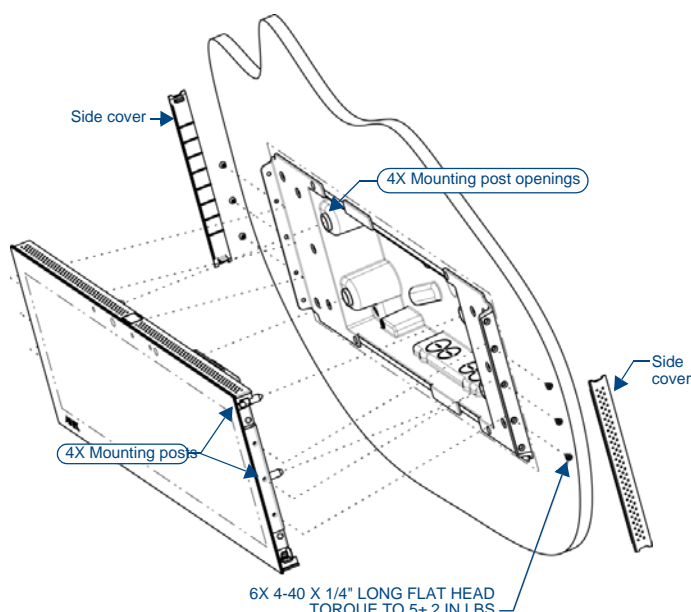

FIG. 5 MXD-1901-PAN installation (Landscape)
10. Insert the four temporary mounting posts of the panel into the openings on the Backbox and slide the panel onto the Backbox. This will temporarily hold the panel during the rest of the installation (FIG. 5).
11. Use the six provided screws, three at each end, to secure the touch panel to the Backbox (FIG. 5). Use only the provided screws, as other screws may damage the touch panel.